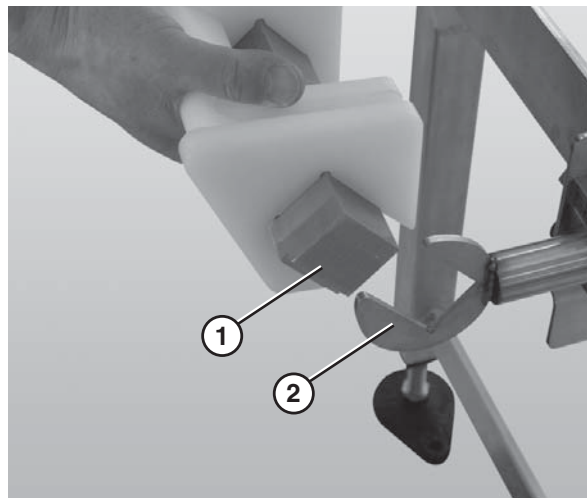

Figure 17
4. Attach the nose bar transfer post (**Figure 17, item 1**) to the nose bar idler shaft hands (**Figure 17, item 2**).